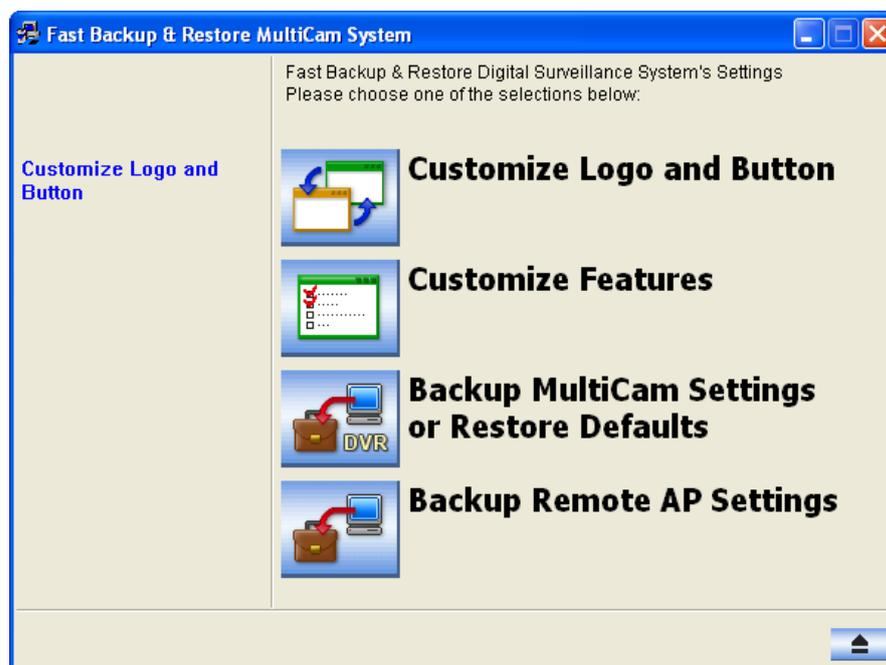

Figure 11-35
1. In the FBR window (Figure 11-35), click the **Customize Logo and Button** icon, select **DVR**, and then select **Custom Logo**. This window appears.
1. In the FBR Window (Figure 11-35), click the **Customize Features** icon to display this dialog box.
1. In the FBR window (Figure 11-35), click the **Backup System Settings or Restore Defaults** icon, and select **Backup Current System**. This dialog box appears.